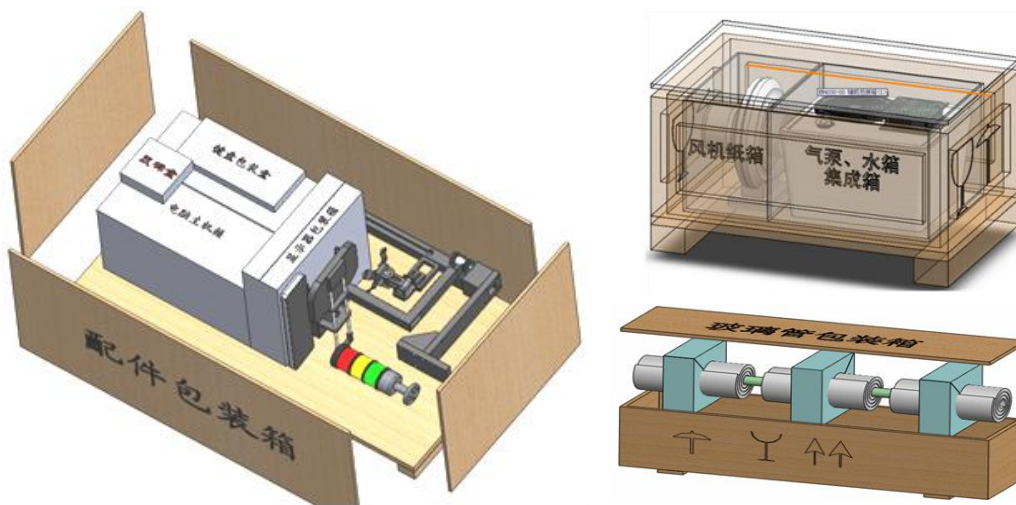

Fig.3-4 Auxiliary machine box and packing box of laser
- Take out the host computer from the auxiliary machine box (Figure 3-4), put it to the bottom of host computer box as the following figure:
- Take out the three-color indicator light from the packing box (figure 3-4), matching the four orientation hole at the top right surface of the machine as the following figure: